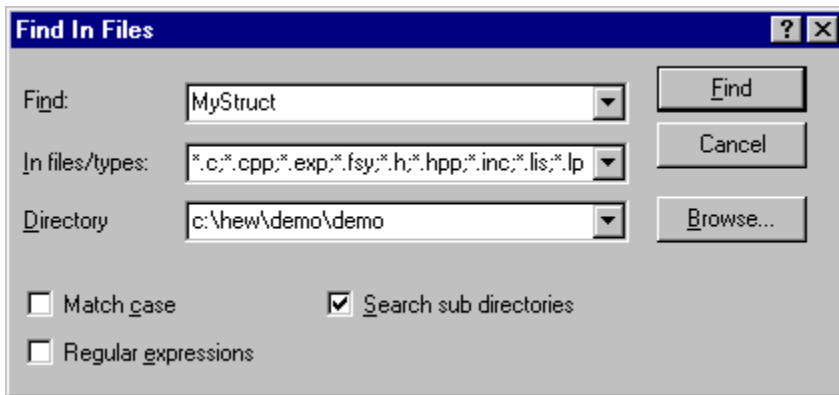

Figure 4.3: Find in Files Dialog
1. Select [**Edit->Find in Files...**], select [**Find in Files...**] from the editor window's local menu or click the find in files toolbar button (). The "Find in Files" dialog box will be displayed * MERGEFORMAT (figure 4.3).